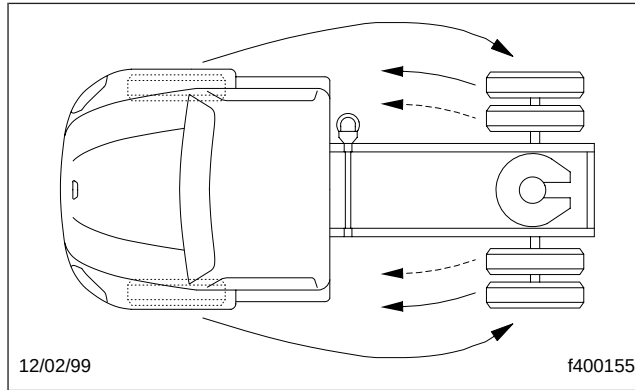
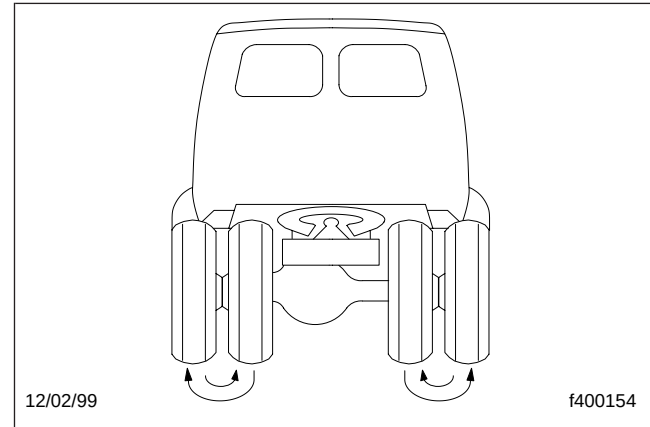

Fig. 11.8, Front Axle to Rear Axle Rotation
Fig. 11.9, Dual Assembly Rotation
- 43.6 If the tires are wearing irregularly, rotate them. If the front steering axle tires become irregularly worn, move them to the drive axle (**Fig. 11.8**). Have the front axle alignment checked to determine the cause of irregular tire wear. In a dual assembly, if one tire wears faster than its mate, reverse the position of the two tires. See **Fig. 11.9**.